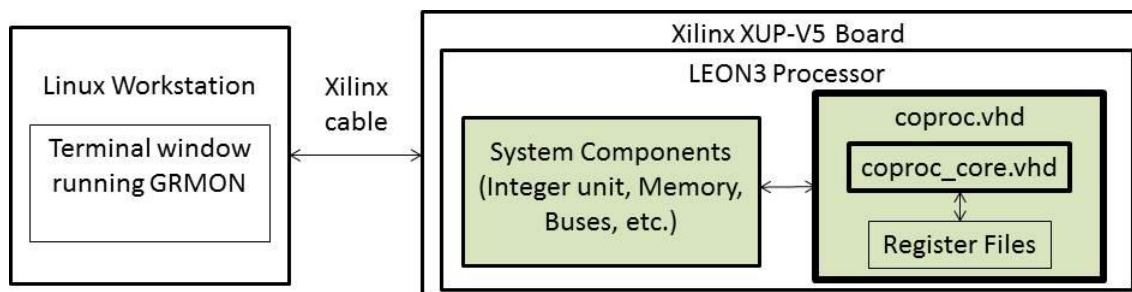

Figure 1: MP-3 Hardware Setup
1) Platform Overview. Figure 1 shows the high-level structure of the MP-3 hardware setup. For the first part, you will generate a hardware configuration (bitfile) for the FPGA using the existing VHDL source (the SPARC open source processor LEON), download that bitfile to the FPGA, and then test that the initial design works before making modifications in subsequent sections. This design is significantly more complex than MP-1 or MP-2, but we only have to edit a small part of it: `coproc.vhd` and `coproc_core.vhd`.